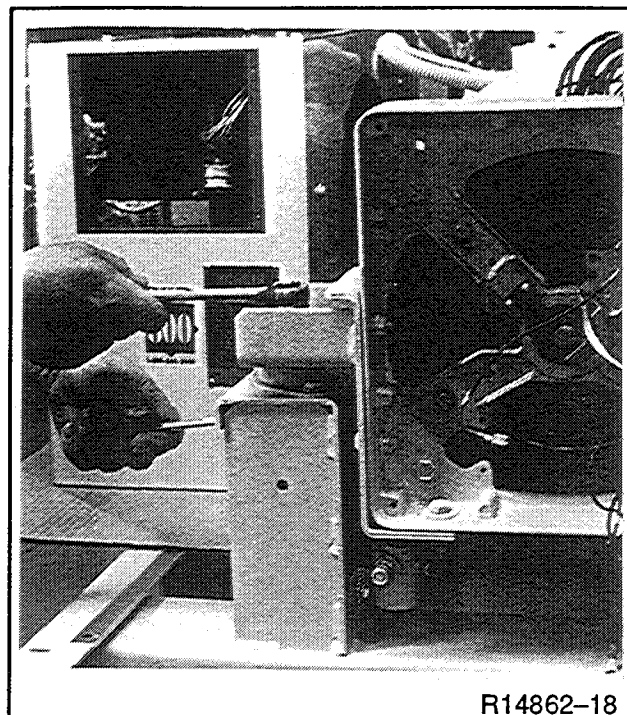

Figure 9-9. Removing Vibromounts
9. Remove vibromount hardware which consists of a small flat washer under the bolt head and a large flat washer at the lock nut end. See Figure 9-9.